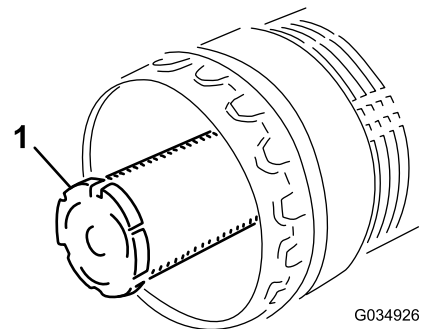

Figure 89
**Note:** Replace the secondary filter every 3 primary filter services (Figure 89).